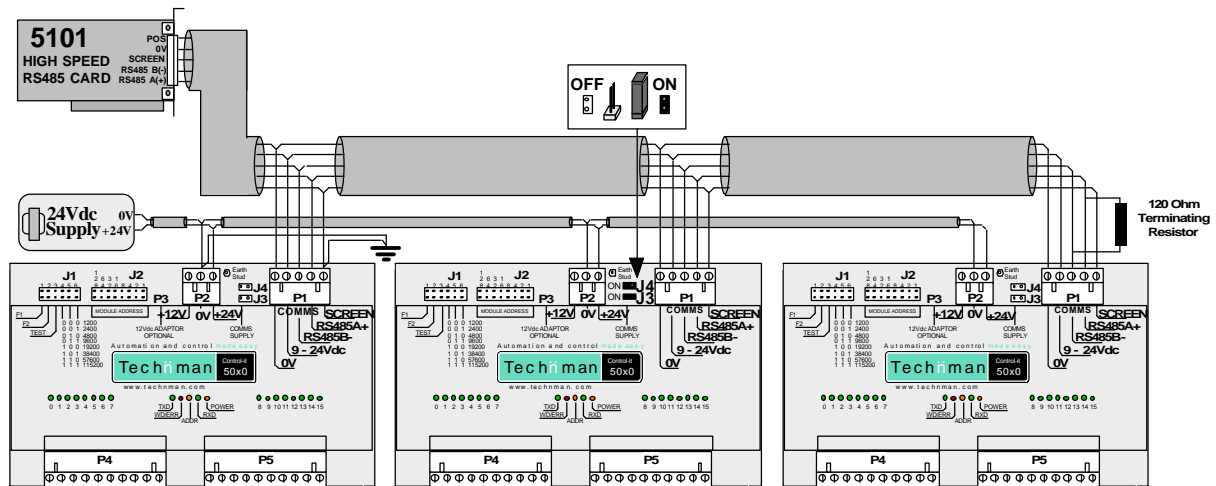

Figure 17 - Connection of multiple remote modules to a single 5101 board.
- The comms section of each module is connected in parallel (daisy chain) as in figure 17.
- Each module must be supplied with 12 or 24Vdc. This can be either via a common supply to all modules as in figure 17, if the modules are close together, or via separate supplies where the installation dictates.
- A **120Ω** terminating resistor must be used across **RS485 A+** and **RS485 B-** in the last module, if the communications cable exceeds 300m. Refer figure 17.